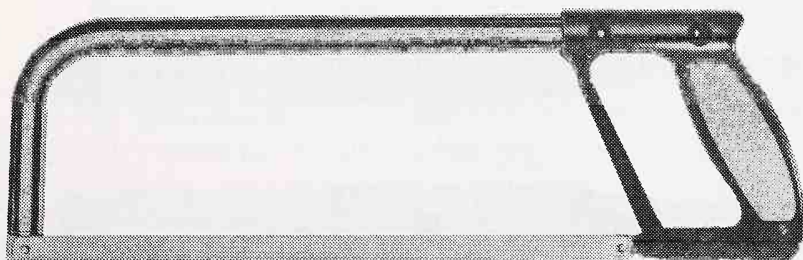

Fig. 2-13. The Stanley hacksaw features a tubular frame for maximum rigidity.
- Hacksaw and blades (Fig. 2-13)